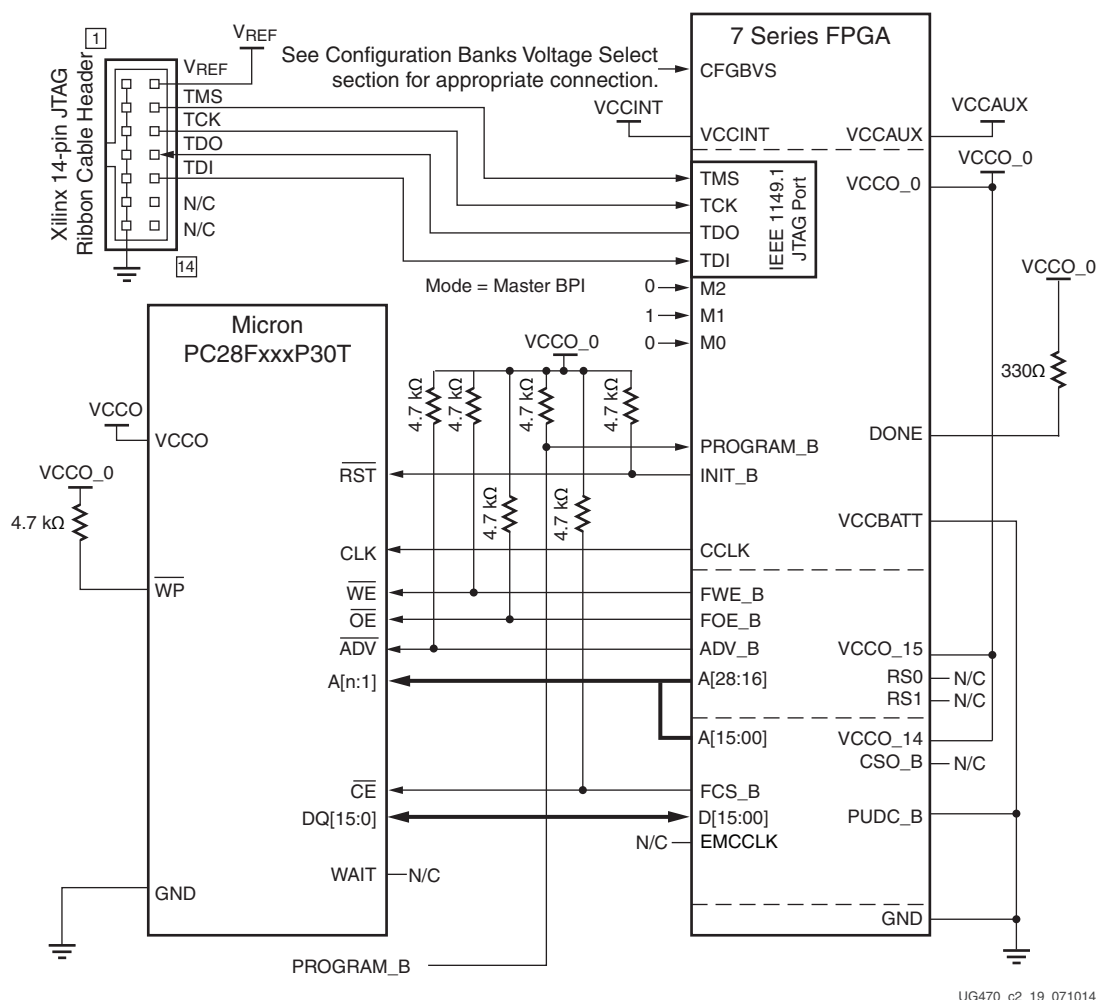

Figure 2-19: 7 Series FPGA Master BPI Configuration Interface Synchronous Read Example
The 7 series FPGA Master BPI configuration mode can optionally read a bitstream from select BPI devices that support burst, synchronous read mode as illustrated in Figure 2-19 and described in Synchronous Read Mode Support, page 61. A BPI device that supports the synchronous read mode latches a given start address from the FPGA into its internal address counter. Then given a clock, the flash outputs data from the next sequential address location to its data bus during each clock period. In the synchronous read mode, a BPI device can deliver data many times faster than through its asynchronous read interface.
The Master BPI synchronous read mode (Figure 2-19) supports the flash families in Table 2-14 with synchronous support. The FPGA starts in asynchronous read mode, using the default CCLK frequency, and the bitstream header determines if the read mode continues asynchronously or if it switches to the faster synchronous read mode. Bitstream commands initiate the switch from asynchronous read to synchronous read if the **BPI_sync_mode** option is set. There are two available settings for the option: Type1 or Type2. Type1 is used to set the G18F flash family synchronous and latency bits and Type2 is used to set the P30. The switch to synchronous mode is done by the FPGA controller, which performs an asynchronous write to the BPI flash configuration register to set the device into synchronous mode and initiate a bitstream reread. To support the synchronous read mode, the FPGA CCLK output is connected to the BPI flash device, and the ADV_B FPGA signal must be connected to the Micron flash \overline{ADV} signal.
Notes relevant to Figure 2-19:
1. The 7 series FPGA synchronous read mode requires a few additional connections over the asynchronous mode. The FPGA CCLK must be connected to the flash CLK signal and the FPGA ADV_B must be tied to the flash $\overline{\text{ADV}}$ signal. This setup shown in Figure 2-19 supports the FPGA powering up initially in asynchronous mode and then switching over to synchronous mode.
5. Only the x16 data width shown in Figure 2-19 is supported by the synchronous read mode.
7. The RS[1:0] pins are not connected as shown in Figure 2-19. These output pins are optional and can be used for MultiBoot configuration. See Chapter 7, Reconfiguration and MultiBoot.
10. The FPGA mode (M[2:0]) pins are shown set to Master BPI mode (010). The implementation of a board-level option that enables the user to change the FPGA mode pins to JTAG mode (101) is recommended to enable JTAG-based debug capability for the FPGA during design. This is not required, but the JTAG mode setting ensures that there is no interference from the Master BPI configuration during debug.